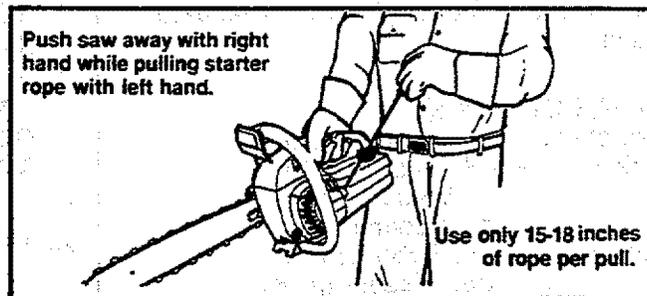

Figure 12
- a. Hold saw firmly with the saw chain free to turn without contacting any object. Push saw away from you with your right hand while pulling the starter rope with your left hand. Figure 12.